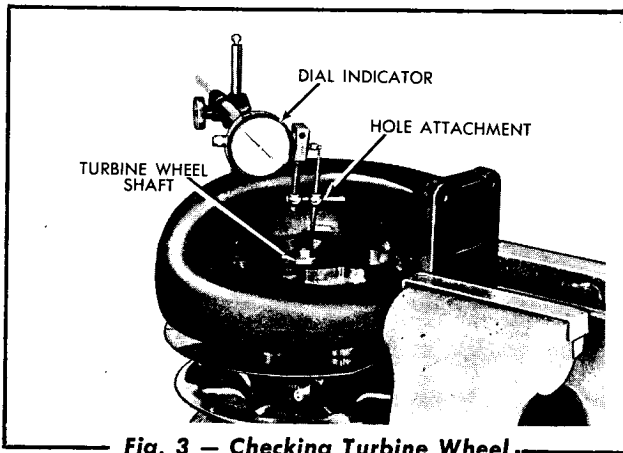

Fig. 3 — Checking Turbine Wheel Radial Movement
- (1) Clamp unit in vise by turbine housing flange (Fig. 3).
- (2) Install the hole attachment on the indicator and fasten to the turbocharger with either a clamp or magnetic type base holder.
- (3) Position the indicator contact point against the middle of one of the flats on the square extension of turbine wheel.
- (4) Push the turbine wheel against the indicator contact point and at the same time push compressor wheel in the opposite direction.